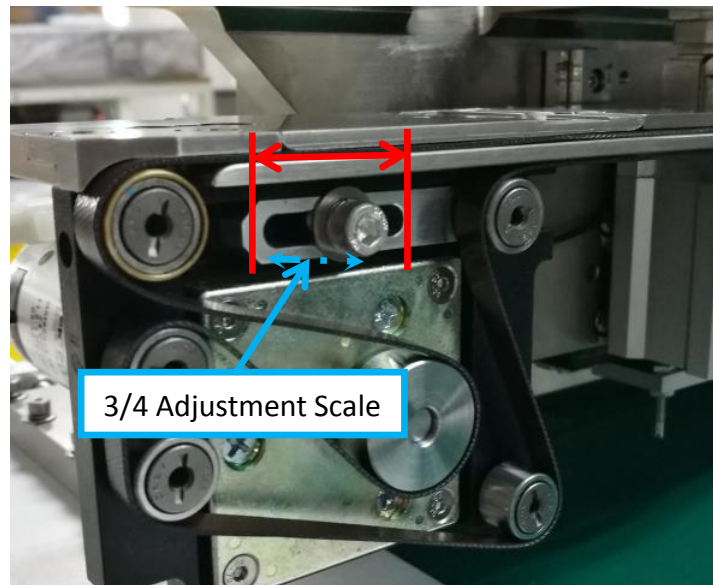

Figure 15 Fixed rail mount pulley
8. Loosen the Belt Tension Pulley Block screw. Gently adjust Belt Tension Pulley Block is within 3/4 adjustment scale. Then, tighten the Belt Tension Pulley Block Screw. May refer to Figure 15 & 16.